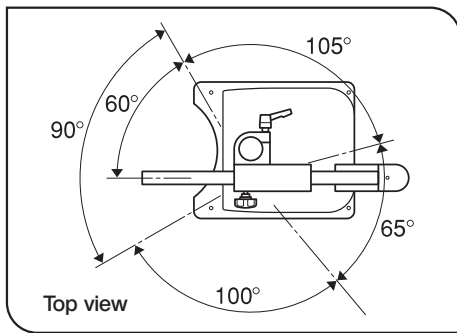

Fig. 12
3. The load of the stand is limited, and its stability is variable depending on the orientation of the horizontal arm. (Fig. 12)